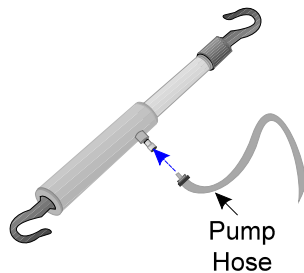

Figure 2 — Connecting Hose
Step 2: Securely screw the Hydraulic Pump Hose (not included) into the Pull Back Ram COUPLER as shown in Figure 2.